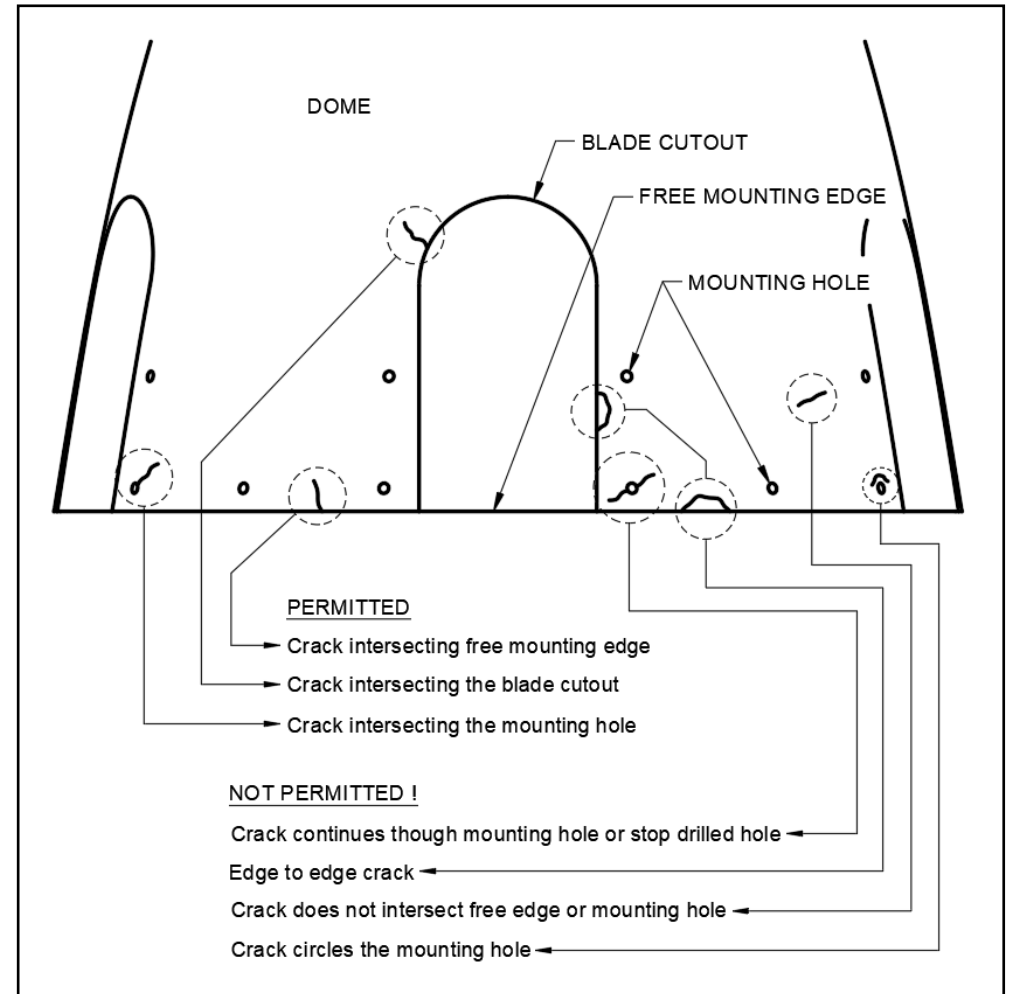

FIGURE 6-8
Inspect the dome and bulkhead for wear, dents, pitting and the cracks. See figure 6-8.
- (1) A total maximum of two cracks are permitted to the dome (see figure 6-8).
- (2) The crack to be stop drilled to minimize further cracking. Drill 3,2 mm or 1/8 inch dia hole at the end of the crack. The crack may be stop drilled only one time.
- (3) The stop drilled crack must be inspected before the first flight of each day. The crack that continues beyond the stop drilled hole is not acceptable for further flight and the dome must be replaced.
- (4) The following cracks are not permitted (see figure 6-8):